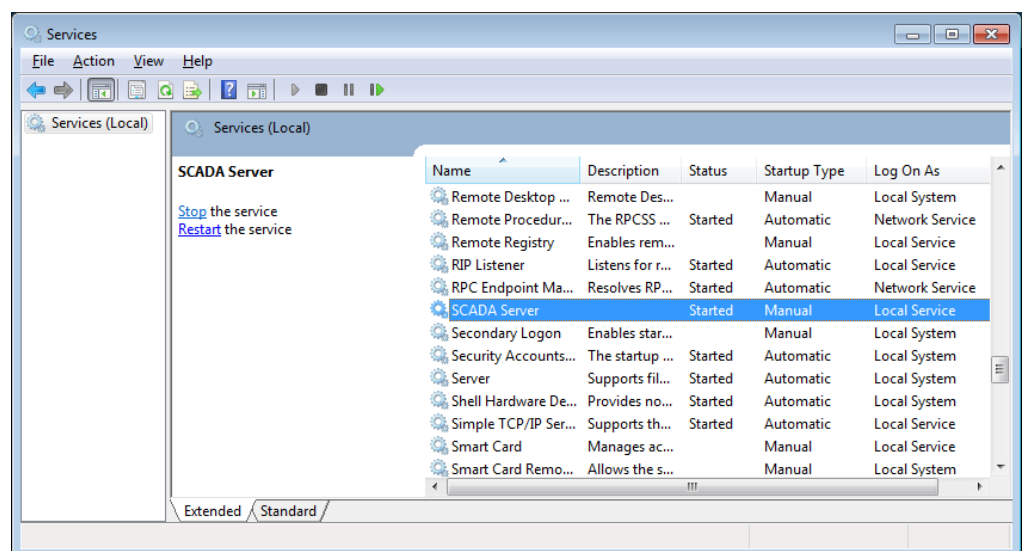

Figure 13: SCADA server
- o Open the management terminal „services.msc“, see >Figure 13<, by